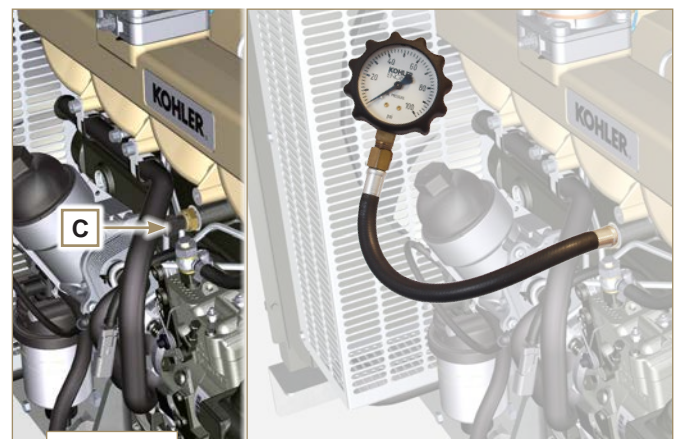

Fig. 12.10
- 2 - Unscrew and remove the oil pressure switch **C** and screw on a 10 bar pressure gauge in its seat (Fig. 12.10).